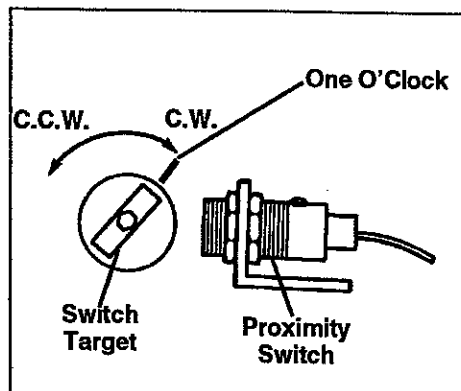

Fig. 28. Adjusting Lower Travel Range
The typical factory set position for the target is approximately at the one o'clock position (looking at it from the side, with the proximity switch at three o'clock). See Figure 28.
- C. Turn the target 2° – 4° counterclockwise if the lower limit of the hook is greater than 9". The hook will lower but will not extend if the target is adjusted too far counterclockwise. See Figure 28.
- D. Turn the target clockwise if the lower limit of the hook is less than 8". The hook will extend without lowering if the target is adjusted too far clockwise. See Figure 28.